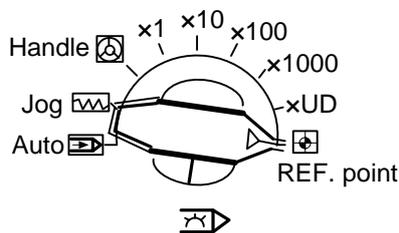

Fig. 1-8 Mode selection knob
- Mode selection knob, which is used for mode selection, as shown in Fig. 1-8.